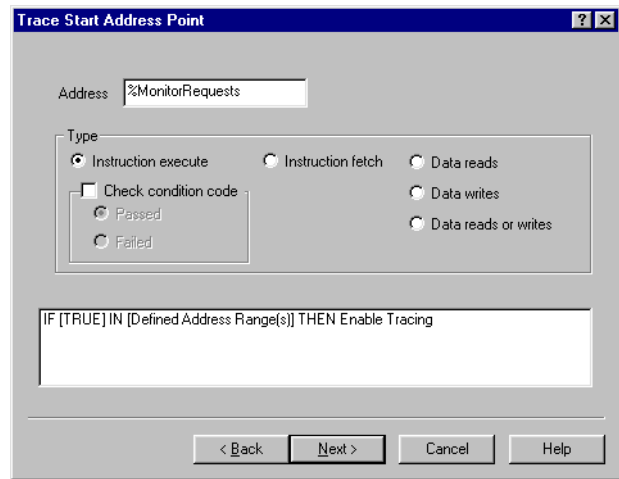

Figure 8-57 Trace Start Address Point dialog box
10. Click on **Next>**. The Trace Start Address Point dialog box shown in Figure 8-57 on page 8-54 is displayed.